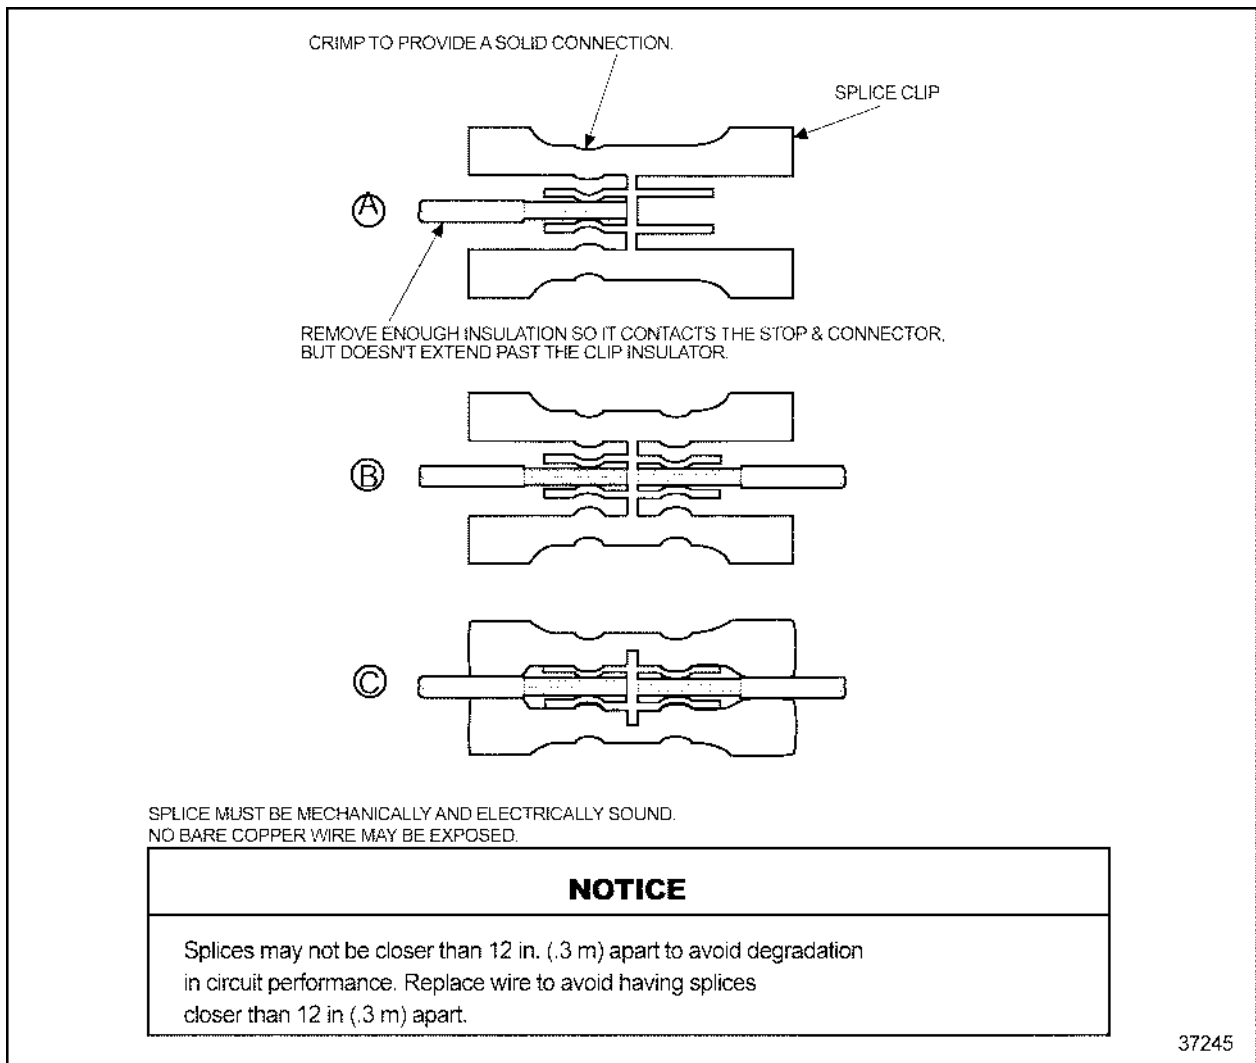

Figure 3-54 Splicing Straight Leads - Alternate Method 1
3. Insert one wire into the splice clip until it butts against the clip. Stop and crimp (see Figure 3-54, A).
4. Insert the other wire into the splice clip until it butts against the clip stop (see Figure 3-54, B).
7. Shrink the splice clip insulative casing with a heat gun to seal the splice (see Figure 3-54, C).